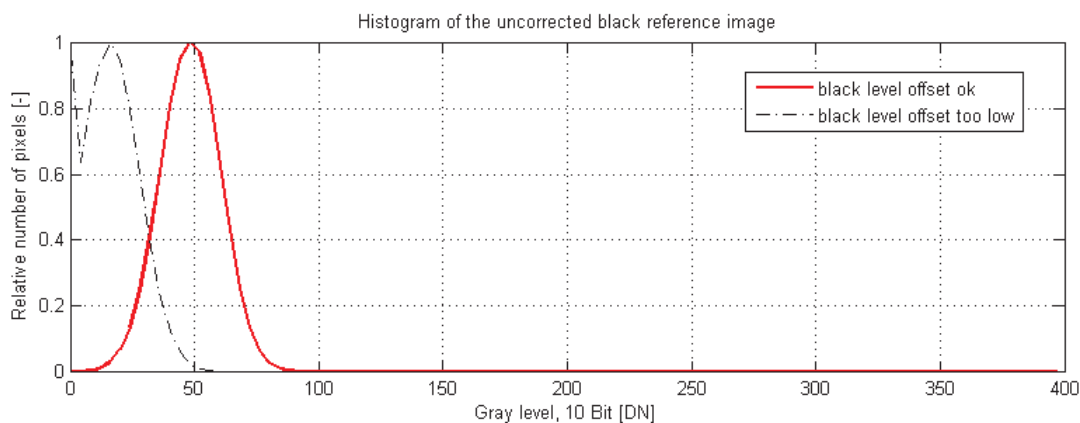

Figure 4.20: Histogram of a proper black reference image for offset correction
- It may be necessary to adjust the black level offset of the camera. In the histogram of the black reference image, ideally there are no grey levels at value 0 DN after adjustment of the black level offset. All pixels that are saturated black (0 DN) will not be properly corrected (see Fig. 4.20). The peak in the histogram should be well below the hot pixel threshold of 252 DN @ 10 bit.